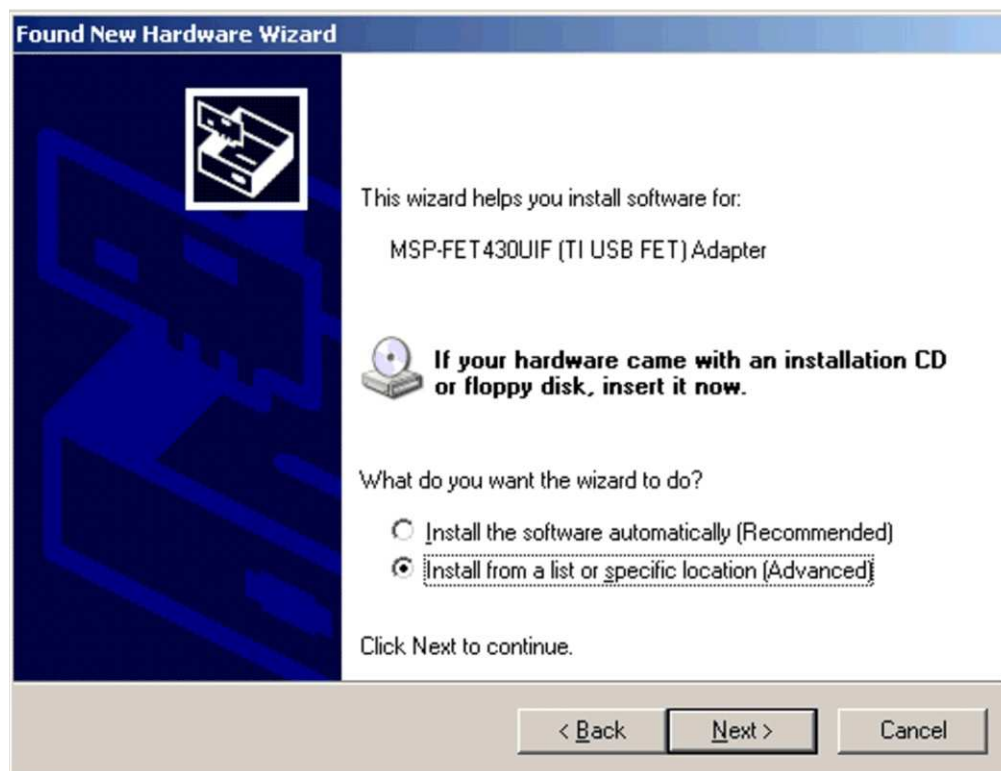

Figure C-1. Windows XP Hardware Wizard
3. Select "Install from a list or specific location (Advanced)" (see Figure C-1).